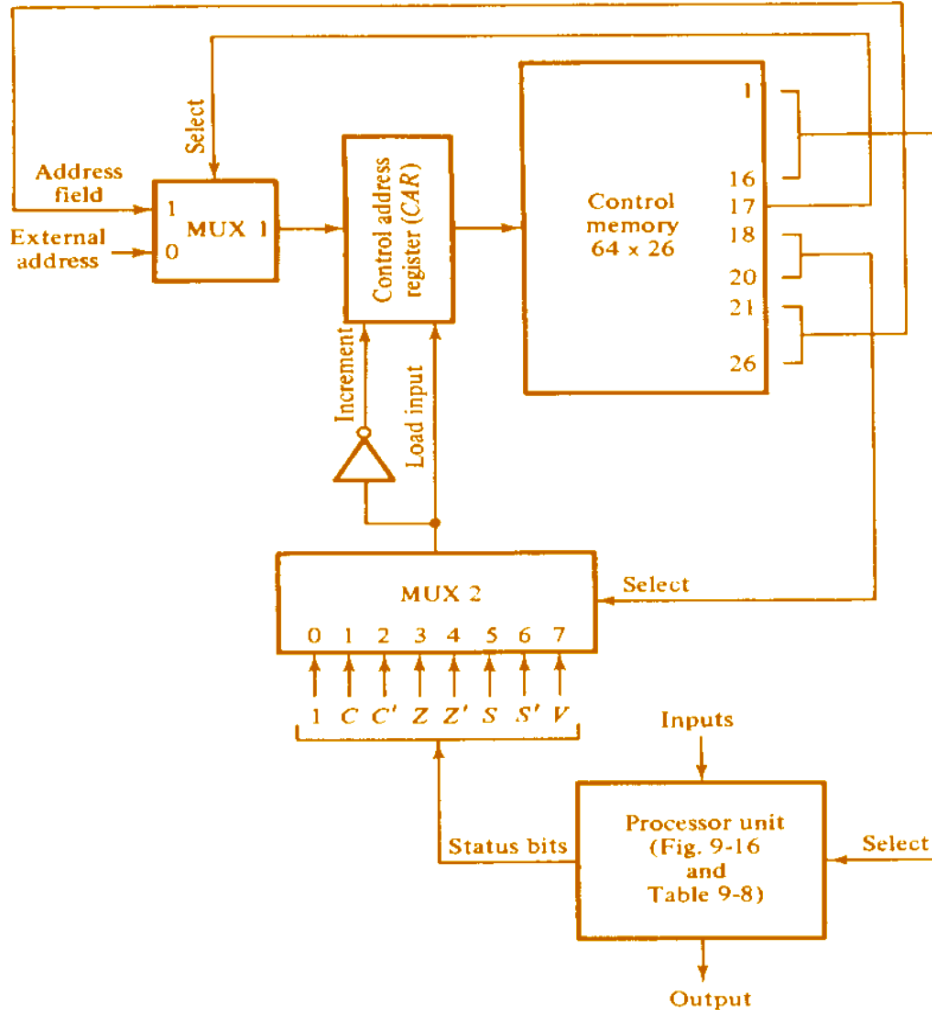

Fig. 1 Micro-program control for processor unit
15. What are the contents of the various registers and various buses and flags after the next clock of Fig. 1 as per Table 4 of question 10 when the ROM addresses are 001011, 001100, 001101, and 001110?